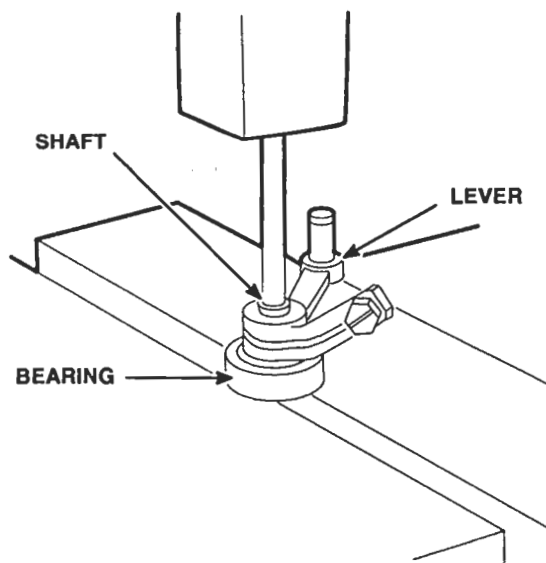

Figure 7. Operating Shaft Removal from Operating Lever
- i. Support the operating shaft and lever on the bed of the press (Figure 7.) Press the shaft from the operating lever and bearing with a brass rod.